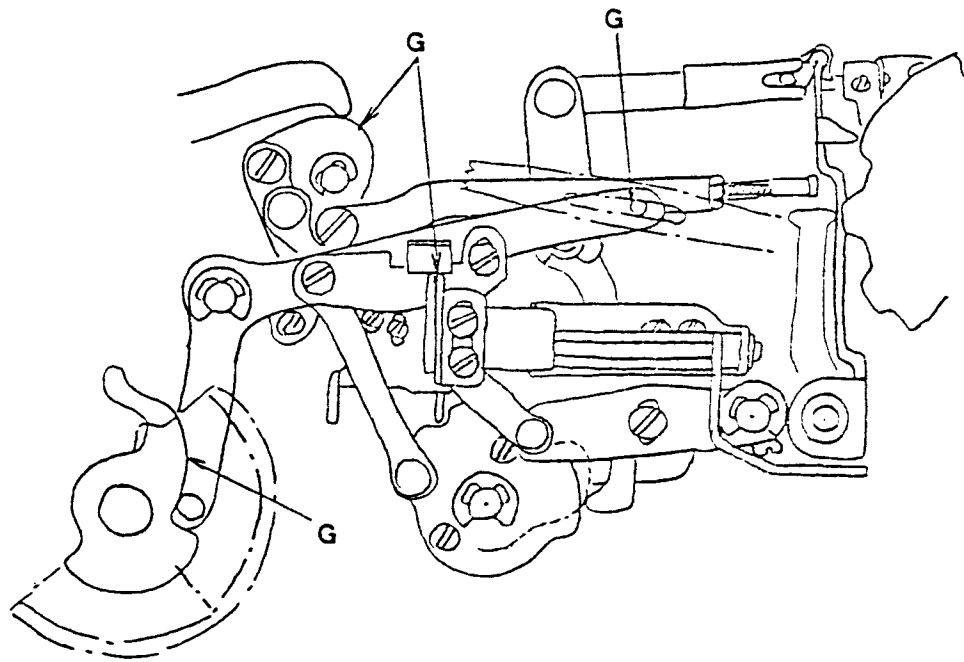

Fig. 44-1
7. Apply a small amount of grease to the cam release mechanism and zigzag mechanism as indicated on Fig. 44-1. Lubricate other frictional areas with a few drops of oil.